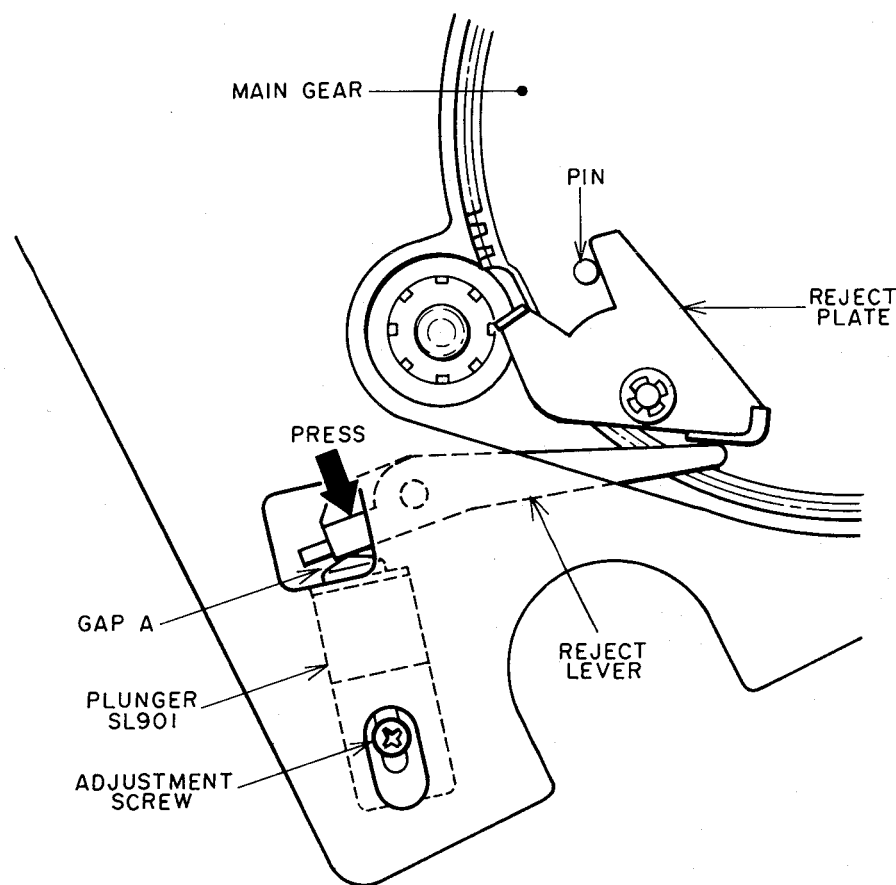

Fig. 8 Return Plunger Position Adjustment
4. RETURN PLUNGER POSITION ADJUSTMENT (Refer to Fig. 8)
Press the reject lever down with a finger until the reject plate touches the main gear pin. Operate the plunger (SL901) in this position and adjust the installation screw at exactly the point where the gap A between the reject lever and plunger disappears. (Refer to Fig. 8)